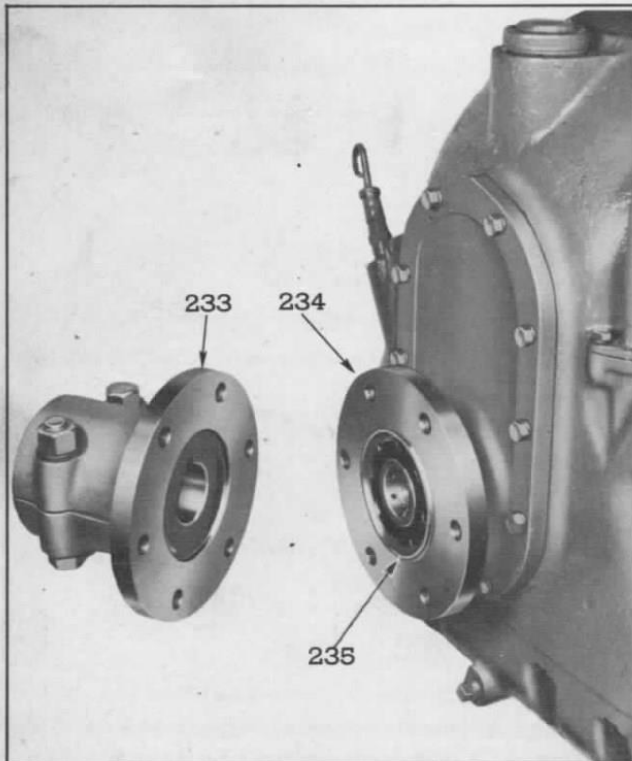

Fig. 23—Engine Shaft and Propeller Shaft Couplings
Propeller Coupling—The engine half of the propeller coupling is fitted with a male pilot (235), Fig. 23, which is carefully machined to be concentric with the bore. This pilot should slide easily into the counterbore in the propeller shaft half of the coupling when the engine is in proper alignment with the shaft. The engine must be so aligned that the two flanges meet exactly square and even. The after face of the engine coupling is machined accurately to be perpendicular to the plane of the engine shaft. This coupling can be distorted by a heavy blow and care should always be taken to prevent it being damaged. The engine should never be moved by using a crowbar or by prying against the engine coupling. If there is any question as to whether the after face of the engine coupling is true or not, this can be determined by using a dial gauge and rotating the coupling, or by using a feeler gauge and rotating the engine coupling against the propeller shaft coupling.